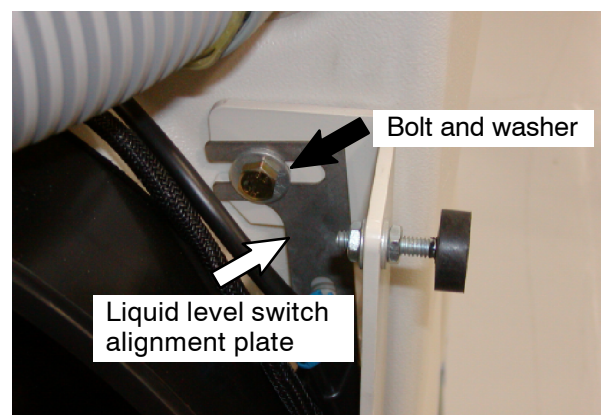

FIG. 7
7. Place the liquid level switch alignment plate onto the float switch and use the bolt and washer to secure the liquid level switch alignment plate to the machine. Refer to Fig. 7.